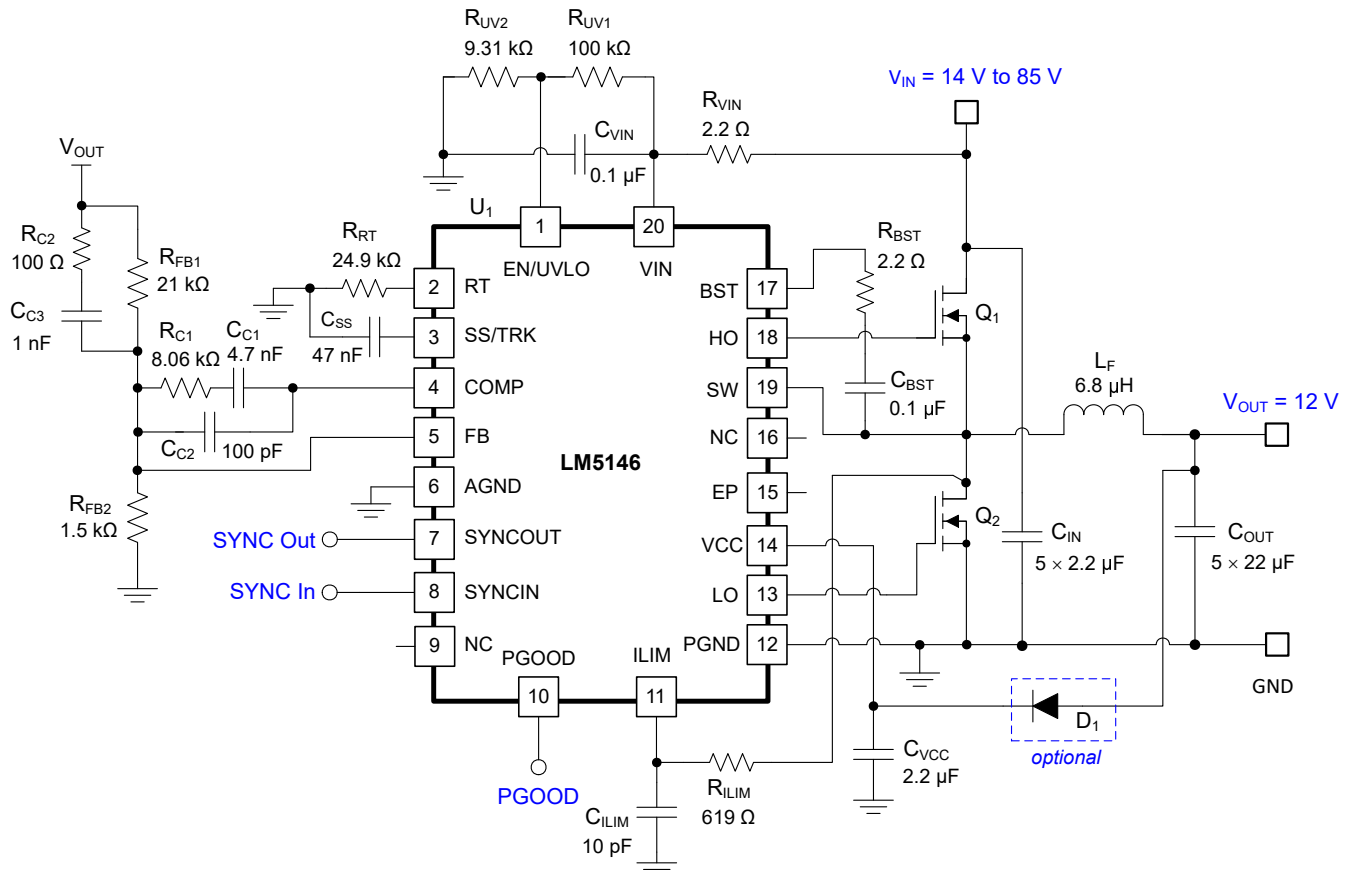

Figure 9-16. Application Circuit 2 With LM5146 48-V to 12-A Synchronous Buck Regulator at 400 kHz
Figure 9-16 shows the schematic diagram of a 400-kHz, 12-V output, 8-A synchronous buck regulator intended for 48-V telecom applications.
As shown in Figure 9-16, a 2.2- $\Omega$  resistor in series with  $C_{BST}$  is used to slow the turn-on transition of the high-side MOSFET, reducing the spike amplitude and ringing of the SW node voltage and minimizing the possibility of  $C_{dv}/dt$ -induced shoot-through of the low-side MOSFET. If needed, place an RC snubber (for example, 2.2  $\Omega$  and 100 pF) close to the drain (SW node) and source (PGND) terminals of the low-side MOSFET to further attenuate any SW node voltage overshoot and/or ringing. Please refer to the application note Reduce Buck Converter EMI and Voltage Stress by Minimizing Inductive Parasitics for more detail.
3. Placing a 2- $\Omega$  to 10- $\Omega$  resistor in series with the boot capacitor, as shown in Figure 9-16, slows down the high-side MOSFET turn-on transition, serving to reduce the voltage ringing and peak amplitude at the SW node at the expense of increased MOSFET turnon power loss.